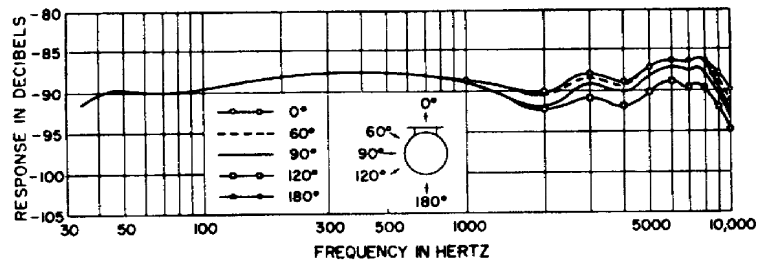

Figure 3-8. Frequency characteristics of Western Electric dynamic (moving-coil) microphone for different angles of incidence
3. Microphones of the above type do not employ an output transformer. The output voltage is taken directly from the voice coil winding. The frequency of the microphone is little affected by the angle of incidence up to 120 degrees (fig 3-8). The impedance of this microphone is 20 ohms, but is operated into a 30 to 50 ohm preamplifier.